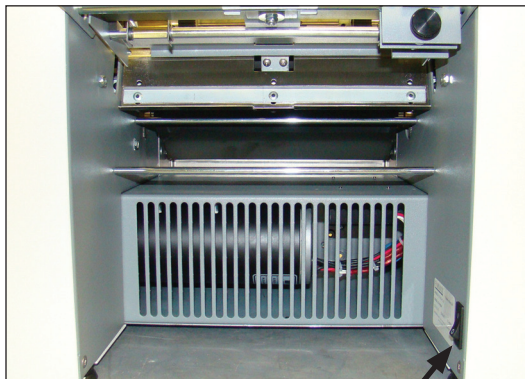

Figure 2
3. Plug in cord and turn power on (Figure 2).